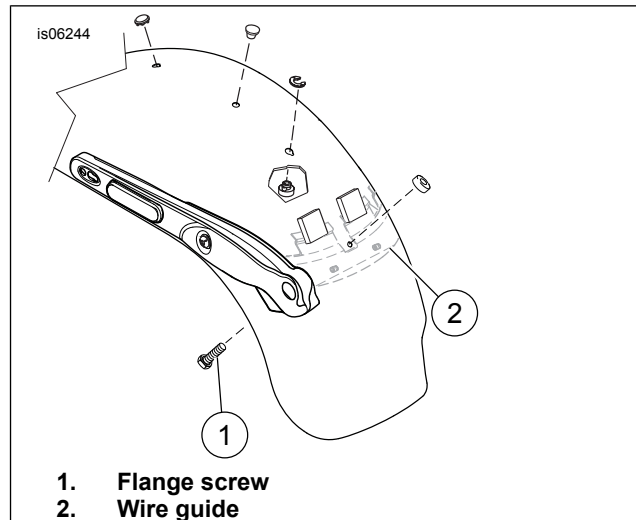

Figure 3. Grab Strap Installation - FXDWG Models
4. Install the flange screw from the inside of the fender into the grab strap mounting hole in the fender. Secure the screw with the seat retention nut. **For 2010 and Later FXDWG Models:** See Figure 3. Verify that the head of the flange screw (1) is clear of the wire guide (2) and is installed against the fender.